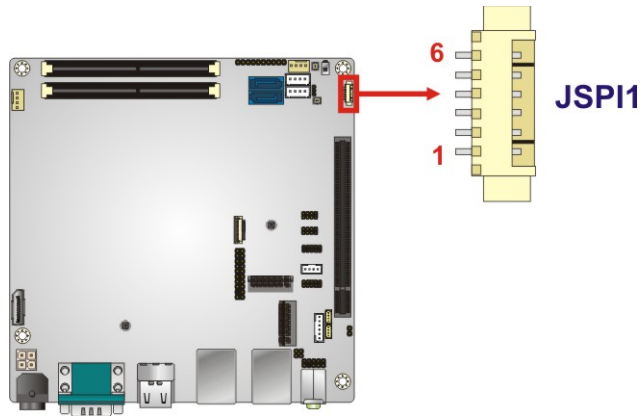

Figure 3-26: SPI Flash Connector Location
- CN Location:** See **Figure 3-26**